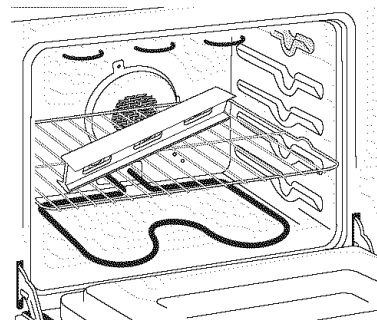

Figure 10
3. Check if the range is level by installing an oven rack in the center of the oven and placing a level on the rack (Figure 10).
2. Place a level on the rack (see Figure 10). Take 2 readings with the level placed diagonally in one direction and then the other. Level the range, if necessary, by adjusting the 4 leg levelers with a wrench (see Figure 16).